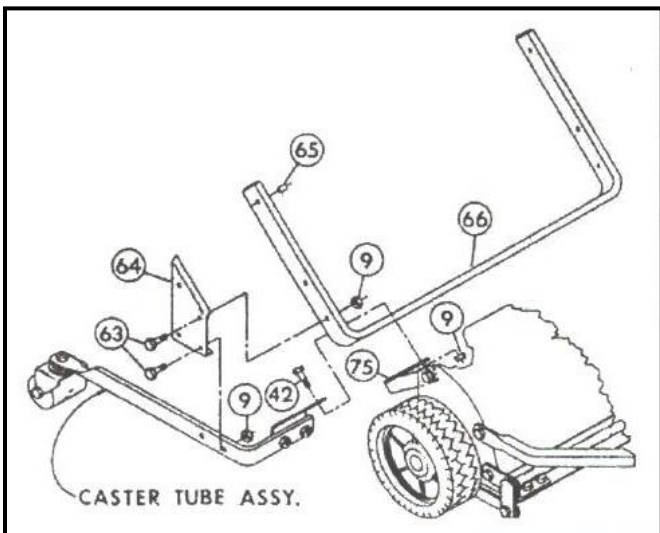
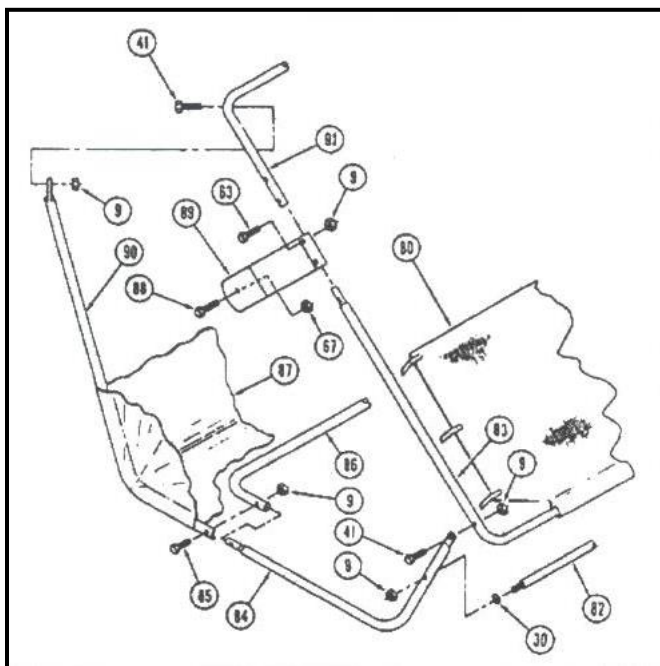

Figure 1
Figure 2
Assemble Hamper Support Tube and Caster Tubing to Lawn Sweeper as follows and shown in Figure 1.
- A) Take Hamper Sub-Assembly and place on a flat surface. Locate five pieces of ¾" diameter tubing and two Hamper Pivot Brackets (89) as illustrated in Figure 2 (on the next page).
- B) Insert ends of Rear Tube (91) onto ends of Front Tube (83) and align holes. Place Hamper Pivot Brackets (89) with welded brace to the rear over holes. Insert two Bolts (63) and secure with two Lock Nuts (9) on each side.
- C) Place Tie Rod (82) through lip on front of Hamper and put a Flat Washer (30) on each end. Place two Front Lower Hamper Tubes (84) inside Hamper and onto ends of the Rod. Secure with two Lock Nuts (9) on each end. With flat end of Front Hamper Tubes (84) on the outside of Tube (83), align holes and fasten with two Bolts (41) and two Lock Nuts (9). Do not tighten at this time.
- D) Take Lower Rear Tube (86) and place it over the ends of Tubes (84) and align holes. Then position the Rear Corner Tubes (90) over holes and insert a Tube Bolt (85) through each side and secure with two Lock Nuts (9).
- E) Pulling back of Hamper up with Tube (91), align holes in Corner Tubes (90) and insert two Bolts (41) and secure with two Lock Nuts (9). At this time securely tighten all Bolts in this assembly.
- F) Pulling up and back on Wind Apron (80), align its velcro tabs to tabs on side panels of Hamper (87).
- B) Securely tie Dump Rope (15) to center of Rear Upper Tube (91). Run Rope under Hamper, then up between Hamper and Tube (66) and through Grommet in top of Lawn sweeper. Locate Dump Handle (16) on Rope where it can be reached from your Tractor seat and secure by tying a knot on both sides of it.
Place Hamper Assembly from Figure 1 onto Hamper Support Assembly from Figure 2.